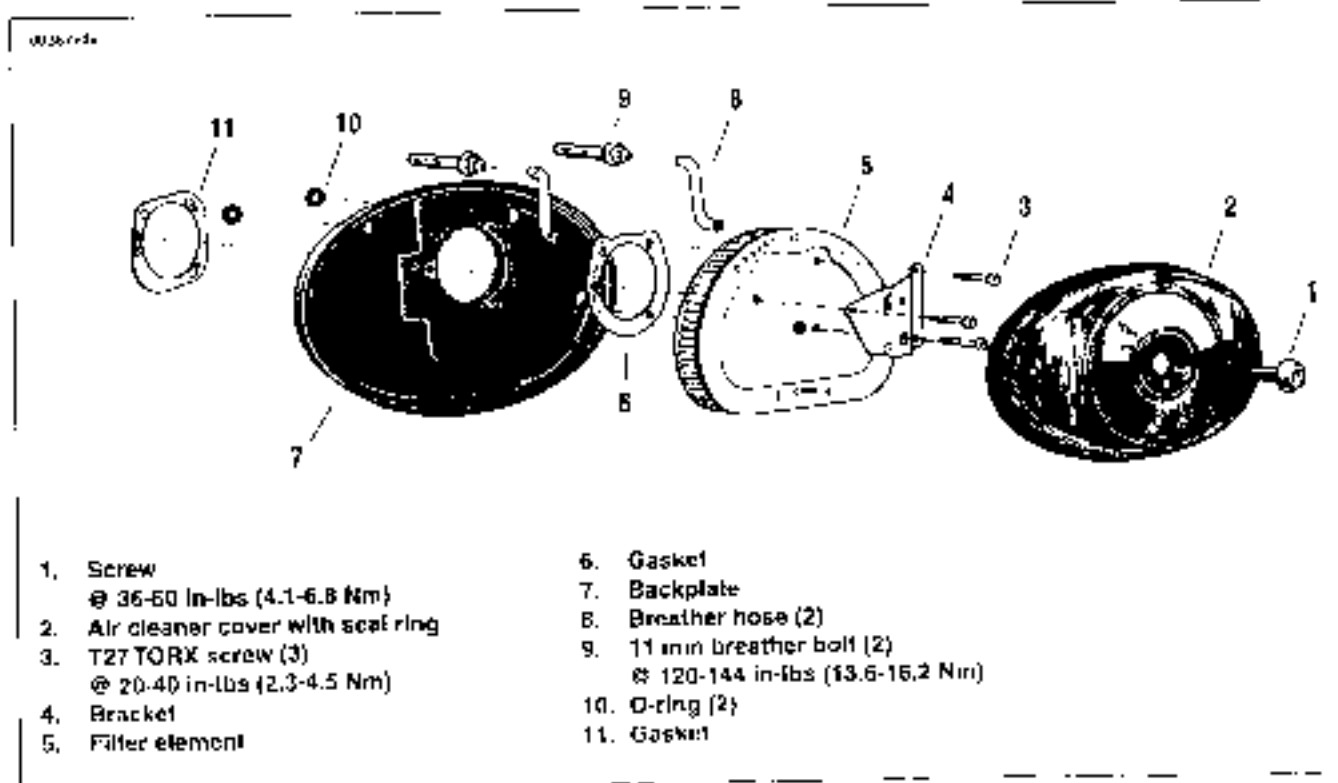
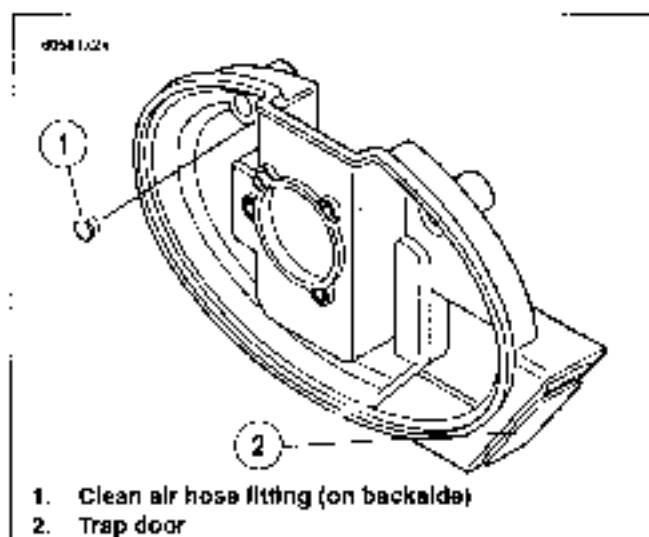

Figure 4-14. Air Cleaner Assembly
Figure 4-15. Backplate-California Models
1. See Figure 4-14. Remove screw (1) and air cleaner cover (2).
2. Remove three TORX screws (3) and bracket (4) from filter element (5).
3. Gently pull both rubber breather tubes (8) from the back of the element. Remove filter element and gasket (6).
5. Gently pull breather tubes (8) from breather bolts (9) on the backplate.
7. Inspect seal ring on cover (2) for cracks or tears. Verify that it seats tightly to backplate. Replace as required.
8. Alternately back out both breather bolts (9) (metric) a few turns a time while pulling backplate (7) away from carburetor.
9. Continue previous step until breather bolts are clear. Remove backplate (7), O-rings (10) and gasket (11). Discard gasket. On California models, disconnect clean air hose from backplate.
10. Wipe inside of air cleaner cover (2) and backplate (7) with damp cloth to remove dust.
11. On California models, make sure trap door swings freely. See Figure 4-15.
1. See Figure 4-14. Position new gasket (11) and two new O-rings (10) on backplate.
3. Insert two breather bolts (9) (metric) into backplate. Thread bolts loosely into each cylinder head. Tighten bolts to 120-144 in-lbs (13.6-16.2 Nm).
4. Insert two breather tubes (8) into the holes in back of the filter element. Place the element back into position and attach breather tubes to breather bolts.
5. Install air filter element (5) and bracket (4).
- a. Make sure gasket (6) holes are aligned with backplate holes.
- b. Use three TORX screws (3) to secure bracket and filter element. Tighten to 20-40 in-lbs (2.3-4.5 Nm).
6. Install air filter cover (2).
- a. Apply a drop of LOCTITE THREADLOCKER 243 (blue) to threads of air cleaner cover screw (1).
See Figure 4-15. California models have unique backplates. These parts may be distinguished by: